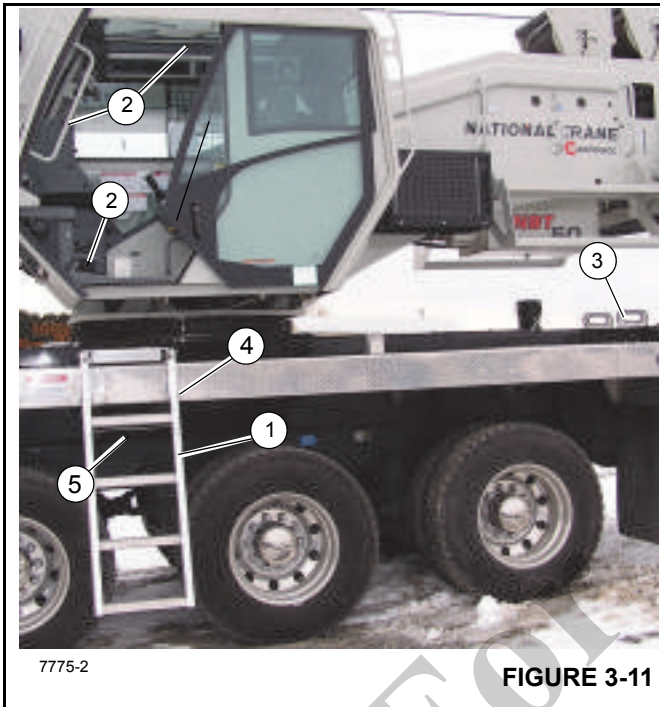

FIGURE 3-11
To enter the crane cab use the ladder (1, Figure 3-11) stowed next to the cab on the carrier decking and position it as shown in Figure 3-11. The ladder is secured in position by latches (4). Climb the ladder and at the same time grasp the grab handles (2) in the cab doorway to enter the cab. Do not try to access the crane cab by other means. Release the ladder using handle (5) and lift and rotate to the stowed position.
Ladder (3) is stowed at the right rear of the crane and is also used to access the cab and superstructure area from the right side of the crane (left side is shown in Figure 3-11). Two sets of holes in the crane left side decking are provided to insert the ladder (3) in the same positions as shown in Figure 3-11.